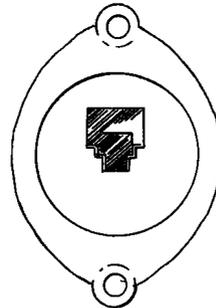

FIGURE 5. 625F Modular Jack
2.07 **625F Flush-Mounted Jack (Figure 5):** This flush-mounted jack is designed to accommodate plug-ended mounting cords used in modular installations. It can be mounted in any standard electrical outlet box by using a 43A bracket and 19A faceplate. This jack can also be used in prewired installations in conjunction with a 63A junction box, 60 ring, and a 16A faceplate.